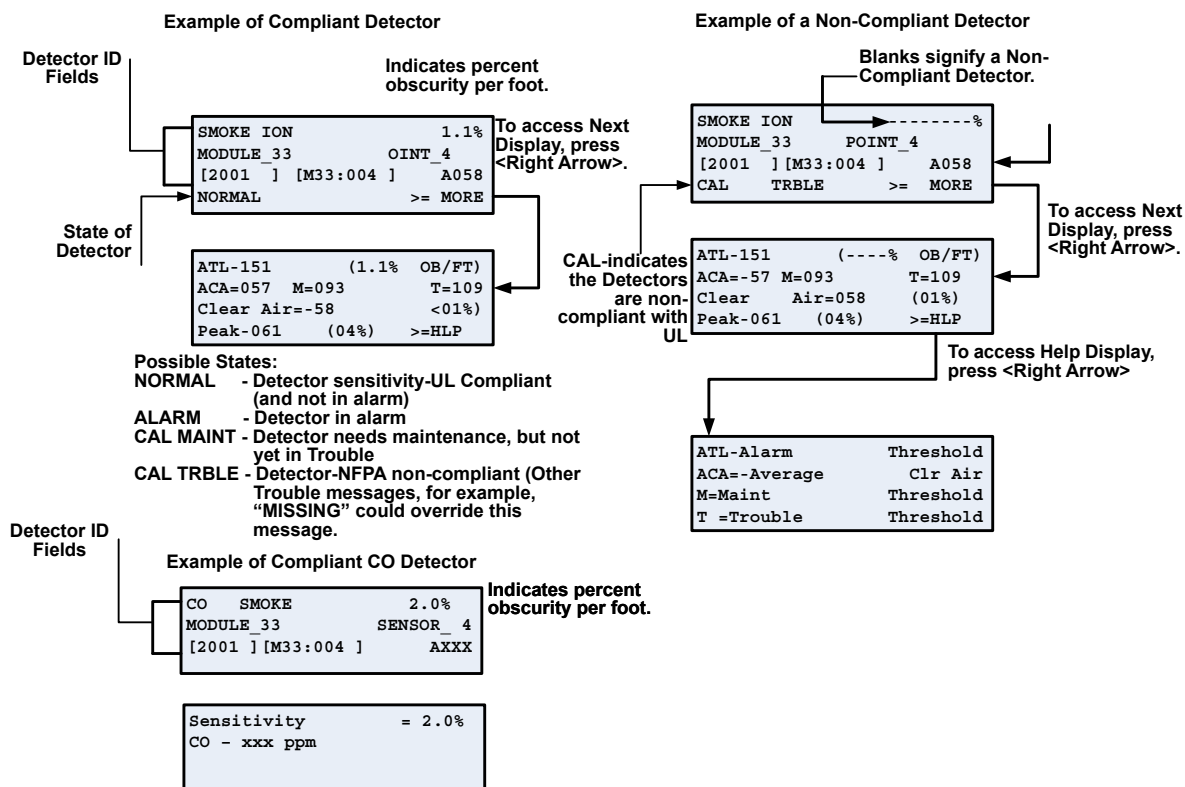

Figure 8.3 Checking Detector Sensitivity Compliance
5. A screen similar to those shown in Figure 8.3 will display.